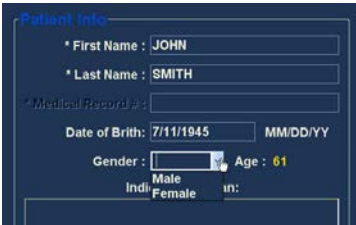

Figure 5.5 - Selecting Gender
The gender field provides a drop down to select either Male (M) or Female (F) as shown in Figure 5.5. Gender is not a required entry. Position the cursor on the small arrow at the right of the gender field. Left click to open the drop down list. Position the mouse over the up/down arrows at the right of the drop down list. Click the mouse to move through gender. Select M or F by positioning the mouse cursor and left clicking.